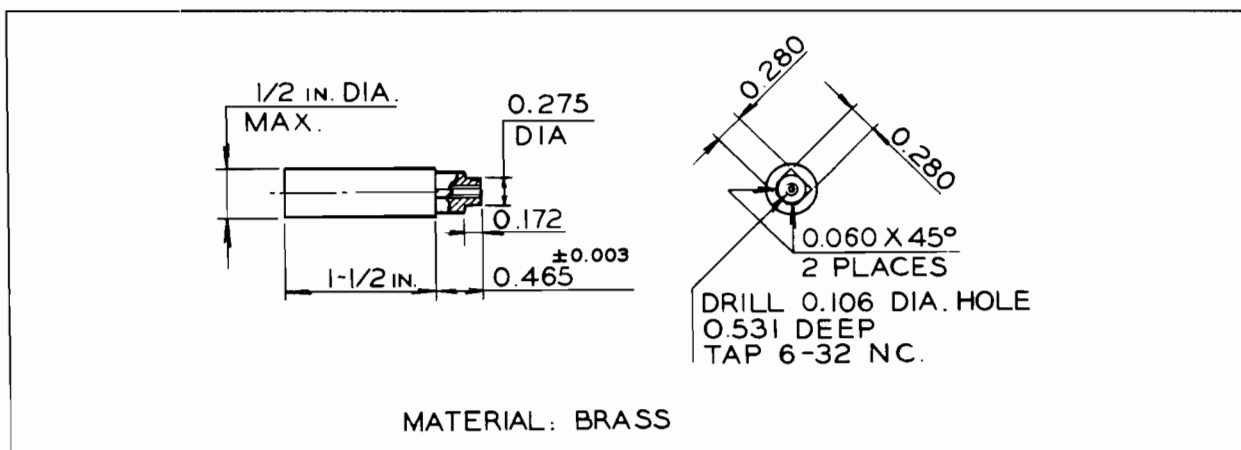

Figure 4. Fabrication of Assembly Tool
3-16. Fabricate an assembly tool similar to the one shown in figure 4. For assembly of spring (11) into rotor (7). There are two different methods: